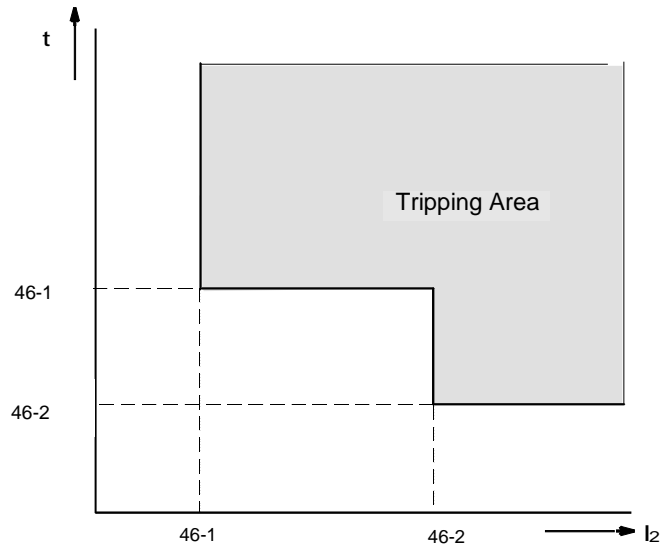
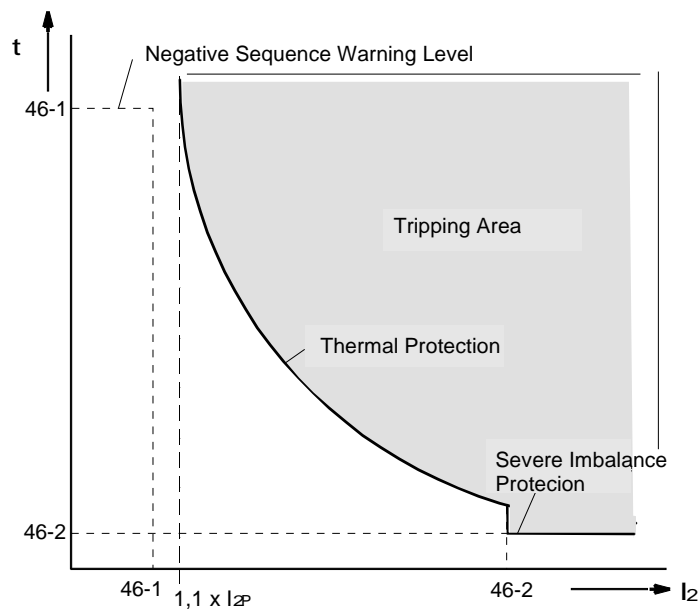

Figure 6-40 Definite Time Characteristic for Negative Sequence Protection
Figure 6-41 Inverse Time Characteristic for Negative Sequence Protection
The negative sequence protection feature of the 7SJ63 relay uses filtering to dissect the phase currents into their symmetrical components. If the negative sequence component of the phase currents is at least 10% of the nominal device current, and all phase currents are less than four (4) times the nominal device current, then the negative sequence current is fed into three time-overcurrent relay elements, two of which are definite time (see Figure 6-40) and one of which contains an inverse time characteristic (see Figure 6-41).
The two definite time elements are designated 46-2 and 46-1. Each of the two definite time elements will generate a message and initiate a time delay when picked up. Once either time delay elapses, a trip signal is initiated. Figure 6-40 illustrates the definite time characteristic when the 46-1 element is set with a more sensitive pickup value while the 46-2 element is set with a shorter tripping delay.
When the negative sequence current exceeds the pickup setting of the 46-TOC element by 110%, the element picks up, generates a message, and initiates time delayed tripping based on the selected characteristic curve. Once the corresponding time interval on the curve elapses, a tripping signal is initiated. The characteristic curve is illustrated in Figure 6-41.
If disk emulation is selected, the drop out begins when the current decreases to 90 % of the pickup value, and reset proceeds in accordance with the selected reset curve. When the negative sequence current is between 90 % and 95 % of the pickup setting, neither forward nor reverse movement of the disk is simulated. When the negative sequence current falls below 5 % of the pickup value, disk emulation is terminated and immediate reset takes place. Figure 6-41 illustrates the overall tripping characteristic.